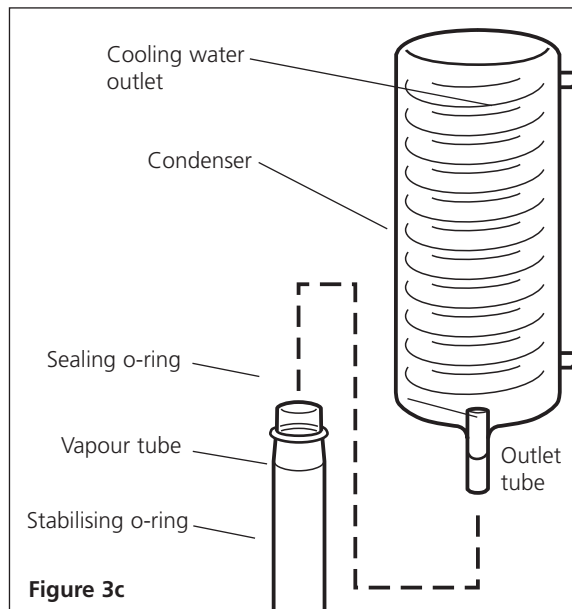

Figure 3c
7. Ensure that the sealing o-ring and stabilising o-ring are correctly positioned, as shown in Figure 3c. Fit the condenser WC48/M2 by mounting it onto the vapour tube of the boiler. Ensure the distillate outlet tube of the condenser faces the front and the cooling outlet faces parallel to the unit.